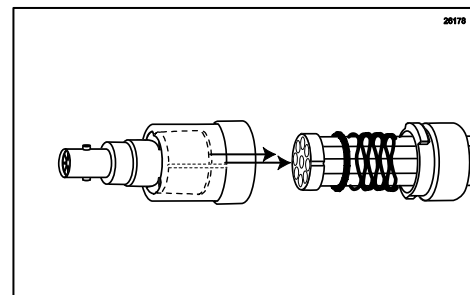

Figure 75
28. Carefully align the pins of the Syrup Line Manifold with the Syrup Line Connector and insert the end of the 9-Tube Assembly fully into the Coupler. (See Figure 75.)